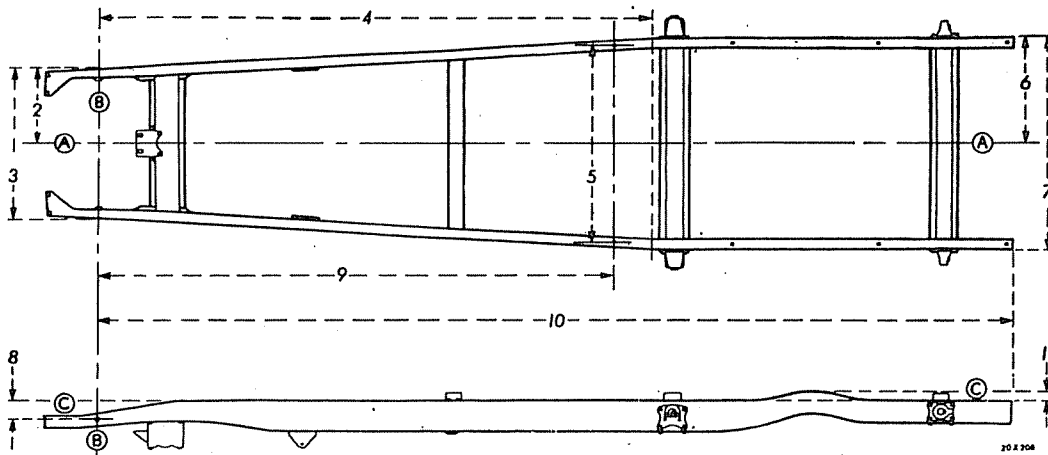
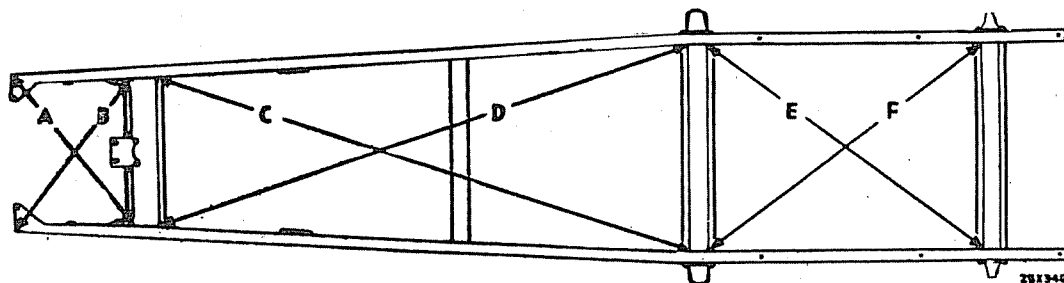

Fig. 1.— Frame Alignment (Dimensions given in inches) 108 inch Wheel Base shown above.
Fig. 2—Frame Diagonal Alignment.
Figure 1 shows various dimensions to be used as a guide in checking frame alignment. These dimensions are the true length between the two points as measured with a steel tape.
Figure 2 shows a few of the various diagonal
To properly check a frame for alignment diagonal measuring should be performed with the greatest of accuracy and care. When the body is removed, the frame may be easily checked for alignment by measuring diagonals shown in Figure 2 with trammels or steel tape and checking dimensions given in Figure 1. Measurements may be taken without removing the body from the chassis,
2. Suspend a plumb-bob from various corresponding points on the frame, such as indicated by the diagonal lines in Figure 2. The plumb-bob should be suspended slightly above the floor. When the plumb-bob comes to rest, mark the floor directly underneath it. The marks made on the floor will represent various points of the frame to be checked diagonally.
4. Measure the distance between the points connected by line "A" Figure 2. This distance should agree within $\frac{1}{4}$ inch with the distance between the points connected by line "B".
The diagonals shown in Figure 2 represent only a few that may be checked. Many other diagonals may be measured in the same way.